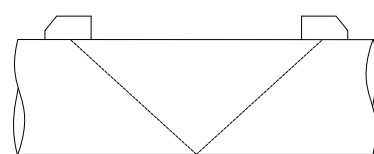

Fig. 3.8: Reflection arrangement
The transducers are mounted on the same side of the pipe (see Fig. 3.8).
- even if the measurement is conducted in the reflection arrangement (see Fig. 3.8).